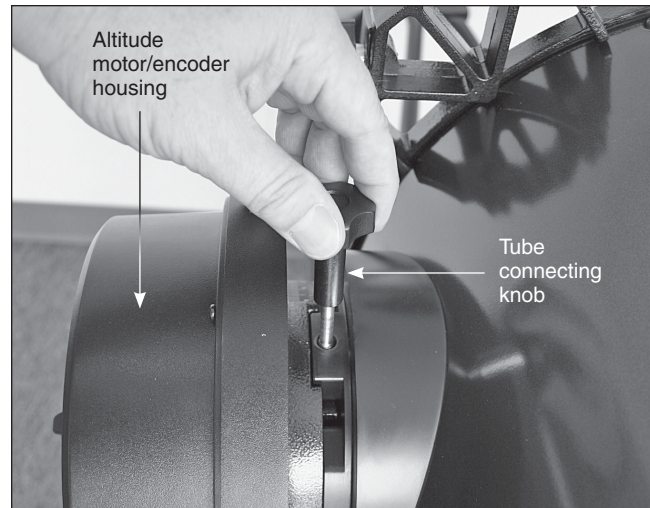

Figure 19. Secure the tube to the base with the tube connecting knob.
3. Now insert and tighten the tube connecting knob to secure the tube in place (**Figure 19**).